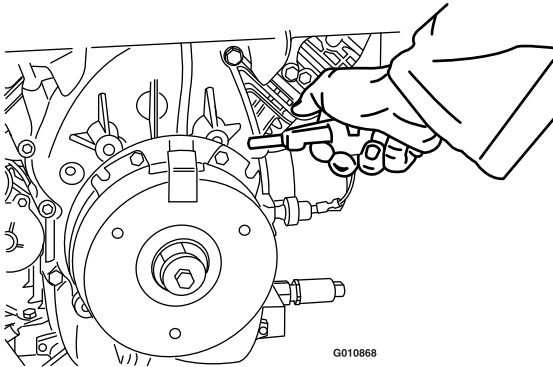

Figure 79
3. Using an air compressor, blow out any debris from under the brake pole and around the brake spacers (Figure 79).